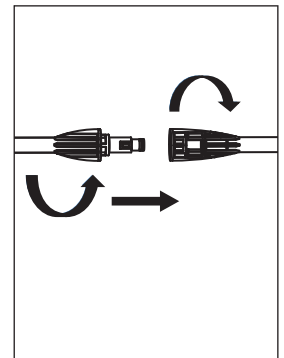

Figure 10 - Attach lance to gun
8. Attach lance to gun, twist and lock. Attach nozzle to lance by pressing the Easy Connect button and inserting into Quick Connector on lance (See Figures 10 & 11) (PW190100 only).